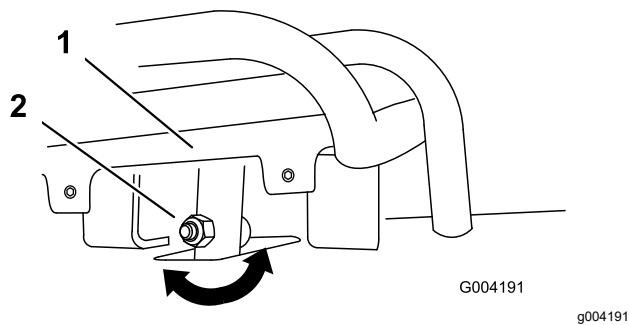
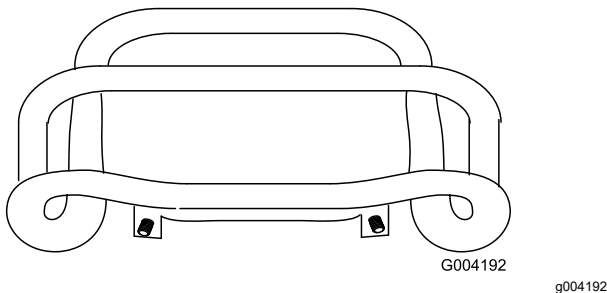

Figure 54
Figure 55
4. If the front of the traction control does not rest square and flush with the reference bar, loosen the nut and bolt in the stem of the traction control (Figure 54).
5. Adjust the traction control so that it rests flush against the reference bar when it is pulled straight back (Figure 54 and Figure 55).
- Loosen the flange nut and bolt in the stem of the traction control (Figure 54).
- Adjust the traction control so that it rests flush against the reference bar when it is pulled straight back (Figure 54 and Figure 55).